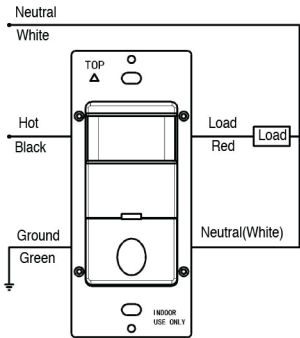

Figure 2
1. Connect lead wires as **WIRING DIAGRAM** (see Figure 2): Black lead to Line(Hot), Red lead to Load wire, White lead to Neutral wire, Green lead to Ground.